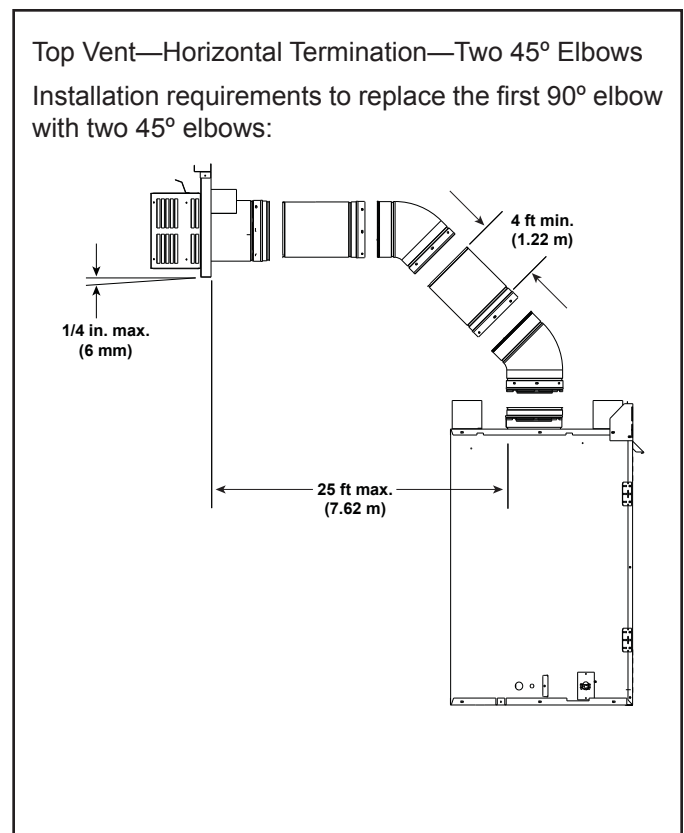

Figure 4.7
To replace the first 90° starter elbow with two 45° elbows, refer to Figure 4.7. All other 90° elbows can be replaced with two 45° elbows.
- Elbows may be placed back to back anywhere in the system as long as the first 90° elbow is a starter elbow except as shown in Figure 4.7.
- Horizontal termination cap should have a 1/4 inch downward slant to allow any moisture in cap to be released. See Figure 4.7.